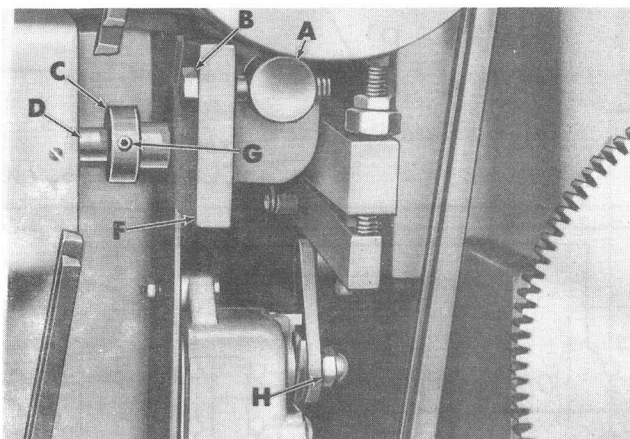
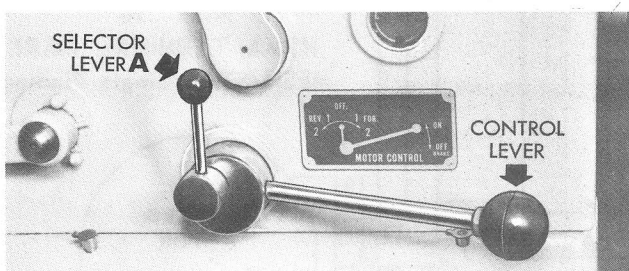

Figure 1
Figure 3
1. Before installing switch panel assembly turn the reversing switch shaft (D, fig. 1) clockwise as far as it will go, and then back two "clicks" — the switch is now in the off position.
3. Slide drum switch shaft (D, fig. 1) with switch panel into coupling (C), then align mounting bar (A) with holes in mounting plate (F) and secure in place with two 3/8-16 x 2" screws (B). DO NOT TIGHTEN SECURELY.
4. Make sure selector lever (A, fig. 3) rotates freely. If binding condition occurs, loosen mounting screws (B, fig. 1) and realign, then tighten screws securely.
12. If spindle rotation does not correspond to selector switch notation, interchange any two line leads. If the motor does not start when the control lever is in the "up" or "on" position, or stop in the "down" position, adjust the travel of the limit switch arm on the switch lever by loosening the adjusting nut (H, fig. 1). If the brake lever at the rear of the headstock jams on the threaded end of the brake link, adjust set screw in the bracket on the switch panel to limit travel of the switch lever.